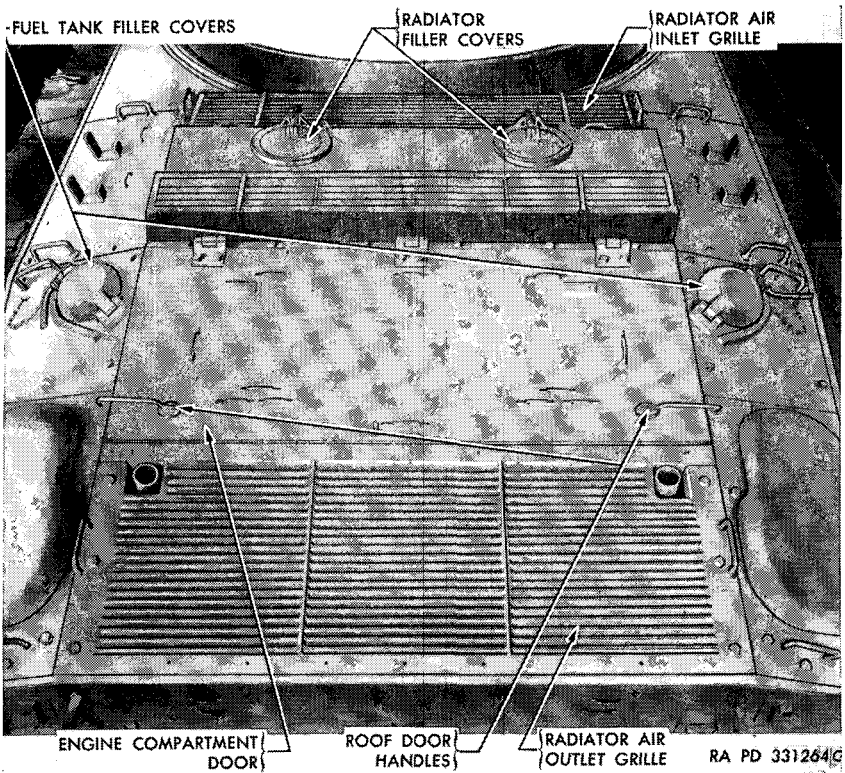

Figure 36. Engine compartment hinged door.
- (2) *Open engine compartment door.* Turn both latches at rear of door to unlocked position, raise door, and fasten to chain on rear of turret.
- (3) *Remove radiator air outlet grille.* Remove the six attaching screws on the ends of the radiator air outlet grille (fig. 36). Remove the grille from the vehicle.